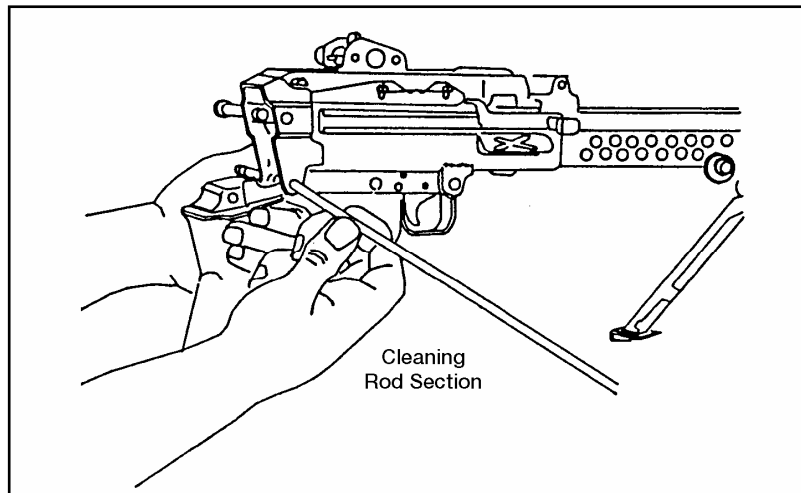

Figure 071-312-4025-11. Removal of the buttstock and buffer assembly
- h.** Remove the trigger mechanism by pulling rearward and down (figure 071-312-4025-12).